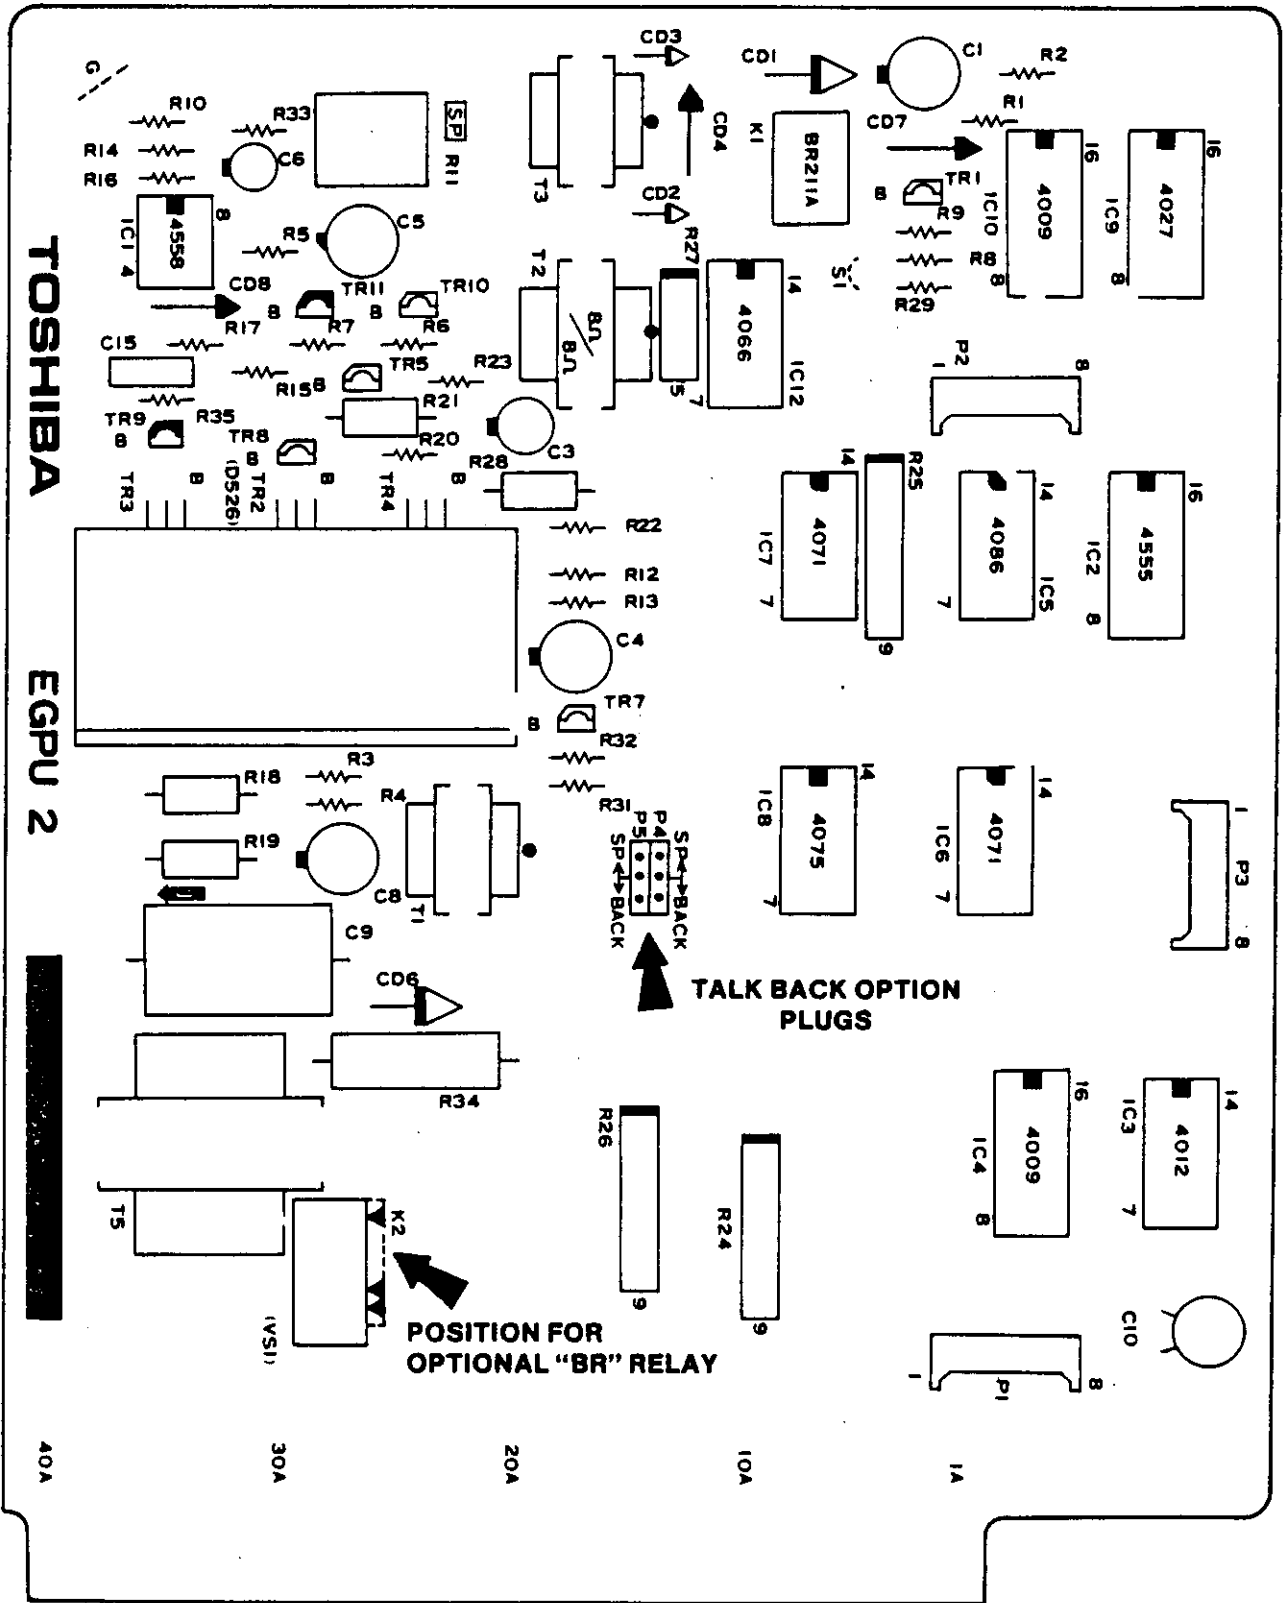

FIGURE 8— EGPU PCB PHYSICAL LAYOUT
4.5 If a talk-back amplifier arrangement is to be utilized, be sure that option plugs P4 and P5 have been moved to the "back" positions on the EGPU PCB (see Figure 8). This will transfer the output of the PCB to the 600-ohm terminals marked "6T" and "6R" at the bottom rear of the EKSU (see Figure 6).
optional "BR" plug-in relay must be obtained and inserted in position K2 on the EGPU being installed in the EKSU (refer to Figure 8).
4.8 Cut strap "S1" on the EGPU(s) being installed if External Paging will be operative and NOT to be automatically included in a Group Page or All Call Page (see Figure 8).